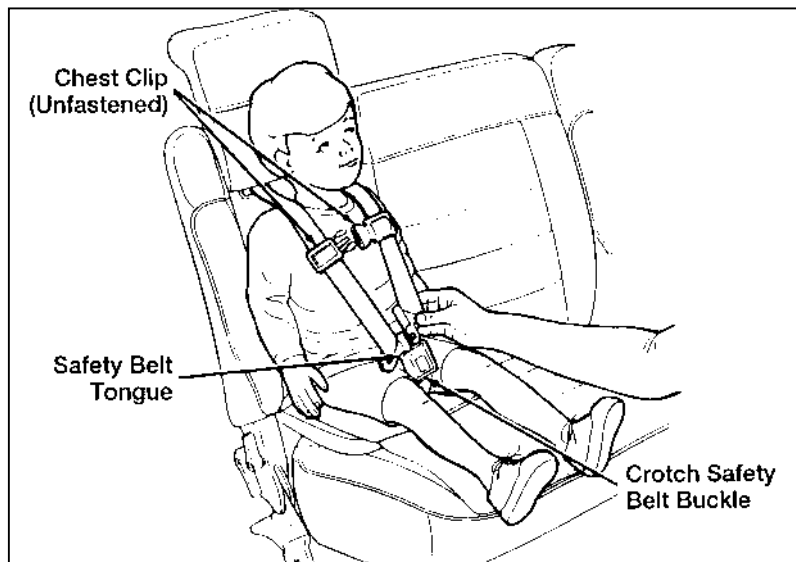

Figure 8: Fastening the crotch safety belt
- Position the left shoulder belt over the child's shoulder and insert the left tongue into the buckle as shown in Figure 8. The color **green** must appear in the color indicator window on each buckled tongue.
2. Press release button on the crotch safety buckle. Refer back to Figure 8.